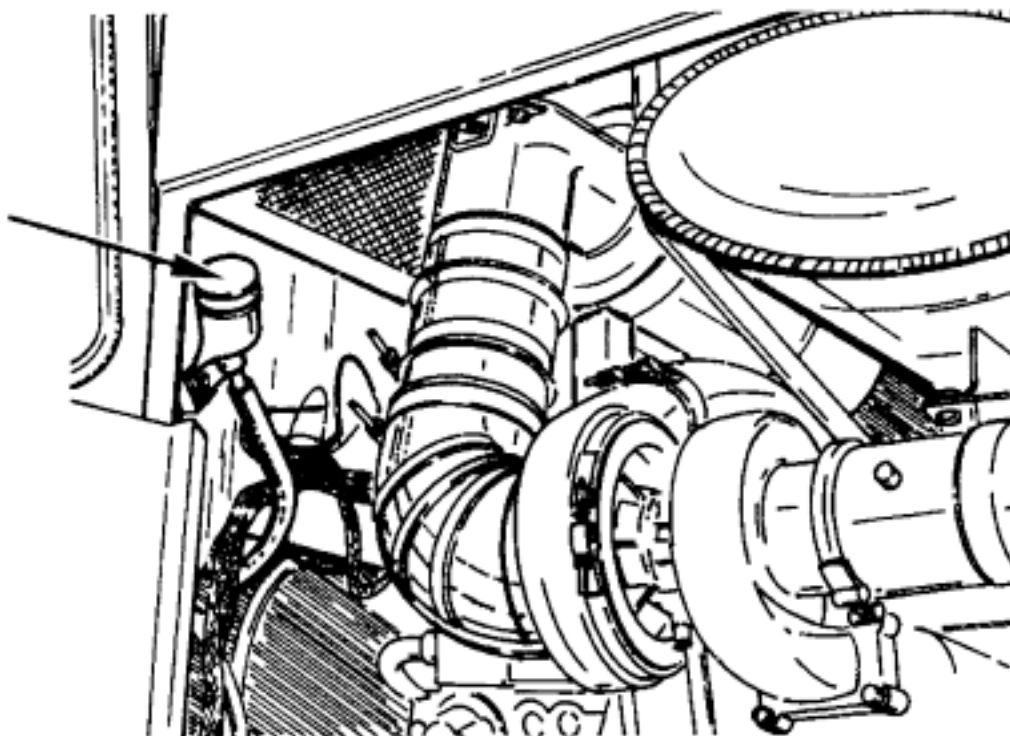

Fig. 5.59. Windshield Washer Reservoir Filler Spout.
5.21.3. WINDSHIELD WASHER RESERVOIR (Fig. 5.59)